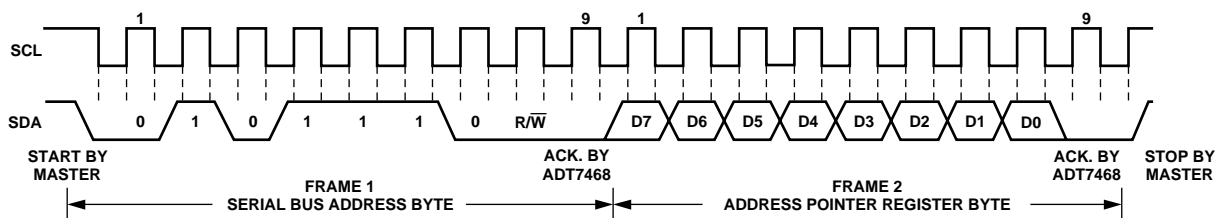

Figure 17. Writing to the Address Pointer Register Only
- If the ADT7468's address pointer register value is unknown or not the desired value, it must first be set to the correct value before data can be read from the desired data register. This is done by performing a write to the ADT7468 as before, but only the data byte containing the register address is sent, because no data is written to the register. This is shown in Figure 17.